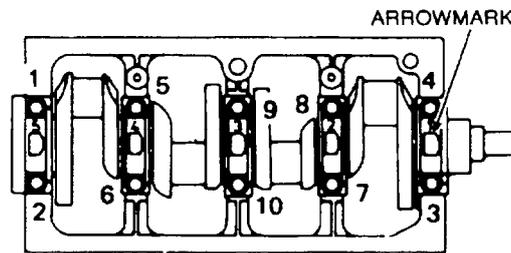

Figure 18 Main Bearing Bolt Removal Sequence
- ii. Using the sequence shown in Figure 18, remove the crankshaft main bearing bolts, remove the bearing caps, ensuring that each bearing cap is numbered and with the aid of a suitable piece of wire push the thrust bearing out.